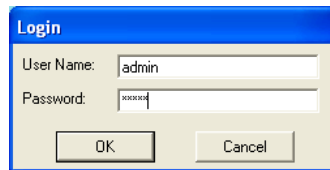

Fig. 3.11
- 10) You must now activate the Edge software you have just installed. After your PC has rebooted, start Edge software on your PC. Type in “**admin**” for both the User name and Password fields (Fig. 3.11).